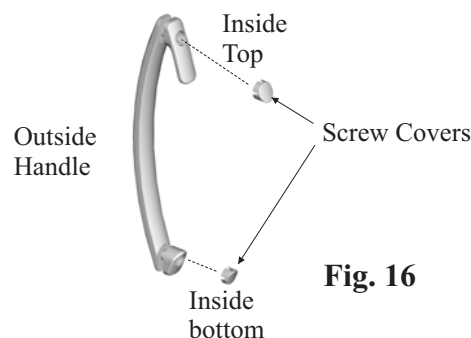

Fig. 16
- 10** **FITTING THE HANDLES**, Remove the handles from the packaging and remove the top and bottom screws. Fit to glass in accordance with the detail below, Fig.16 - Ensure handles are vertical then tighten screws through glass and push in screw covers.